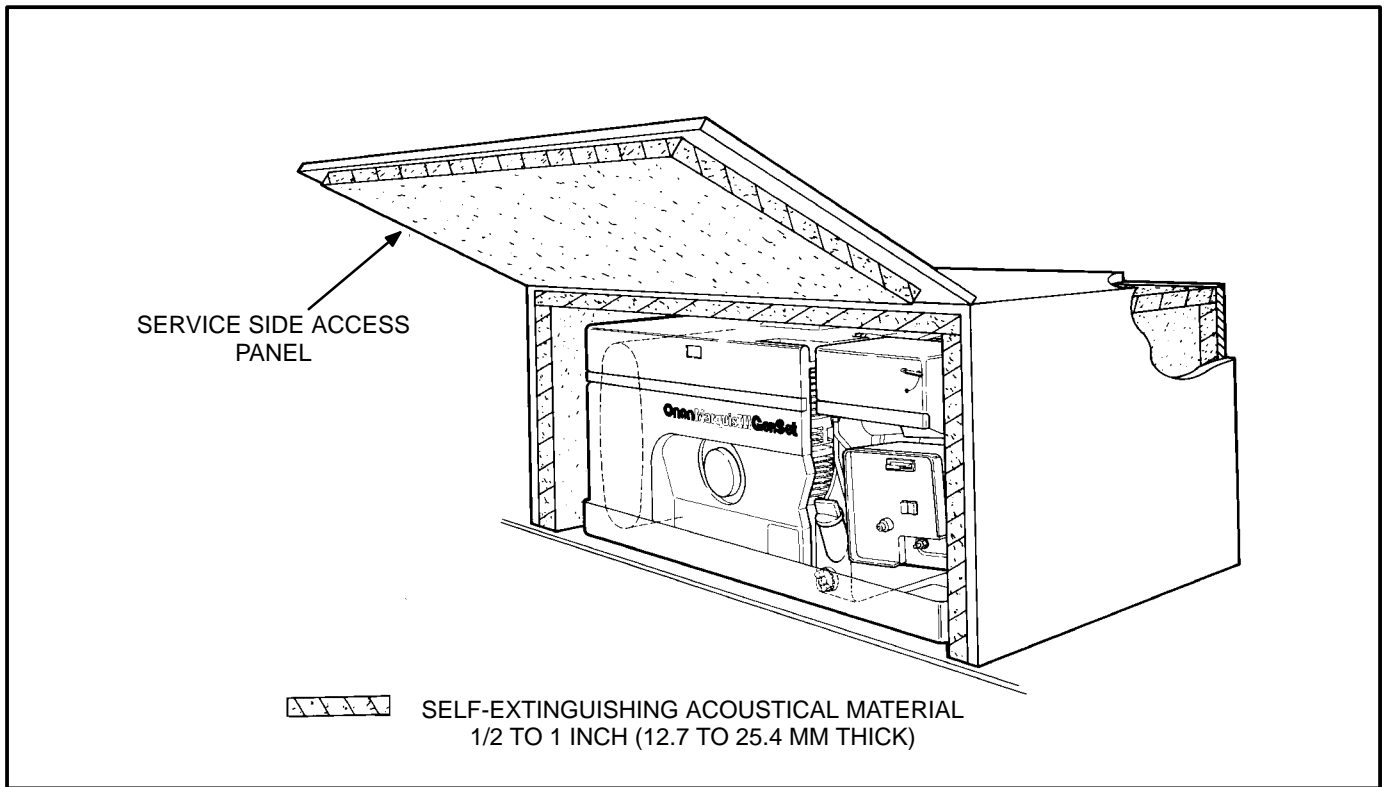

FIGURE 4-2. NOISE REDUCTION-COMPARTMENT DESIGN RECOMMENDATION
- Cover the back, top and sides of the compartment (not the compartment base) with fiberglass or another self-extinguishing, sound-absorbent material. Sound insulation and adhesive should be rated at 200° F (90° C) minimum. See Figure 4-2 to design the set compartment for optimum noise reduction.